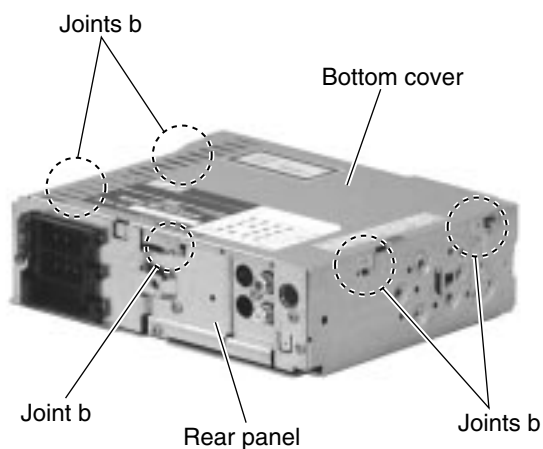

Fig.5
■ Removing the bottom cover (See Fig.5 and 6)